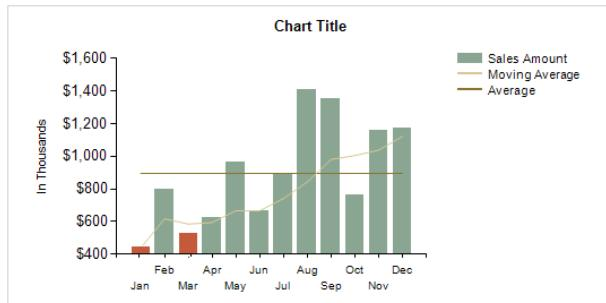

Figure 6-16
- Save and preview the chart, which should look like Figure 6-16.